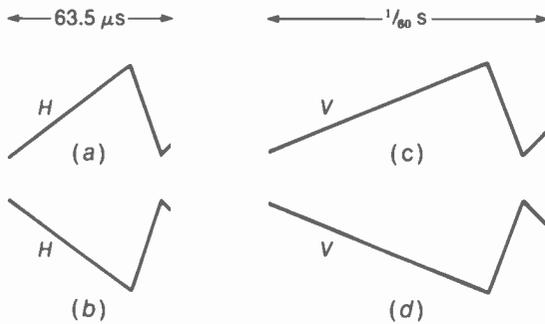

FIGURE 4-14 FOR PROBLEM 5
5. Refer to the sawtooth waveforms in Fig. 4-14 below. For the opposite polarities in *a* and *b*, indicate trace and retrace on each *H* sawtooth, also, the corresponding left and right edges in the raster. For the opposite polarities in *c* and *d* indicate trace and retrace on each *V* sawtooth, also, the corresponding top and bottom edges in the raster.